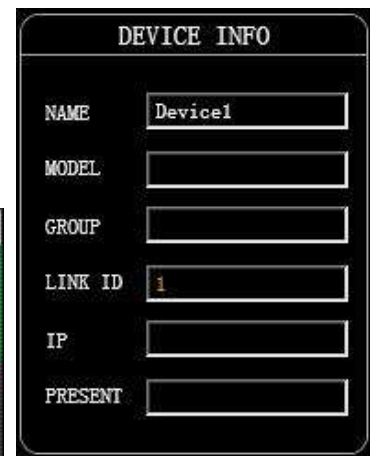

Figure 6.1.2
1. As shown in Figure 6.1.2, the device name, group, and IP can be modified in the upper left corner of the initial interface, and then "device"- "devices", information can be changed according to actual needs.